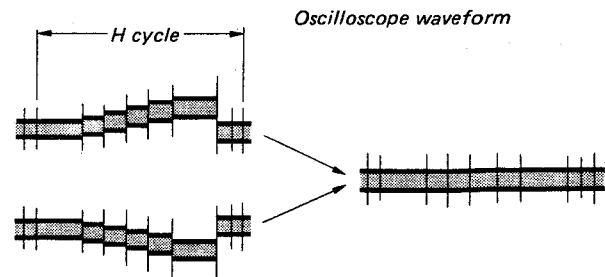

Fig. 5-31.
5. Connect the -INPUT side probe to TP2 on the Q board, and adjust RV1 so that the output waveform is flat (the same as that in step 4). (See Fig. 5-31.)